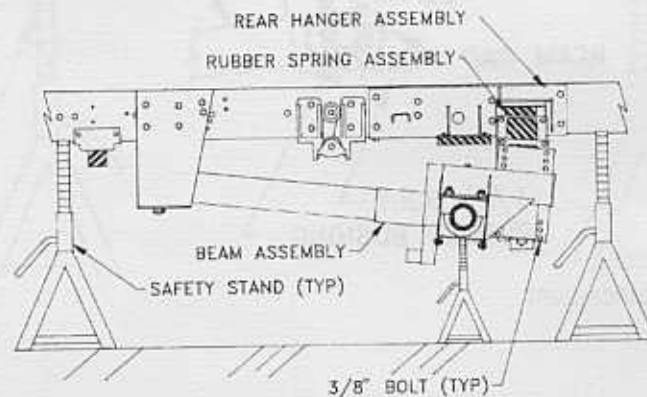

Figure 7: Replacement of Rubber Spring
- 3.) Remove 3/8" bolts that secure spring assembly to beam assembly and rear hanger assembly (See Figure 7).